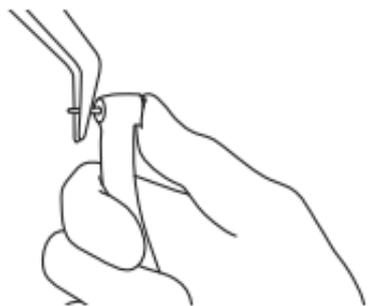

Figure 5.
- ② Retirez la fraise (Figure 5.).